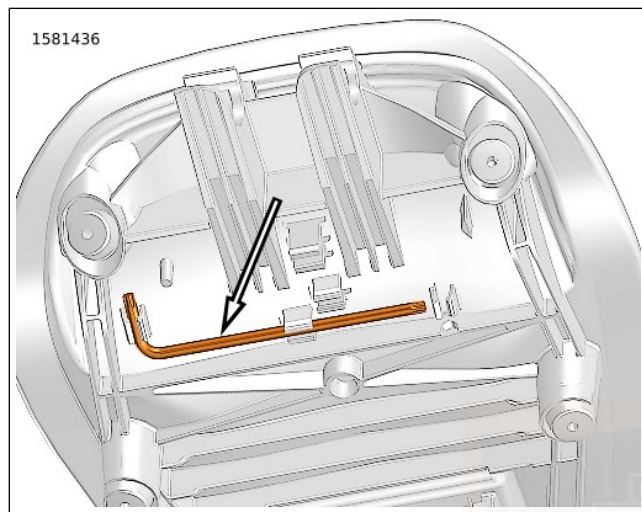
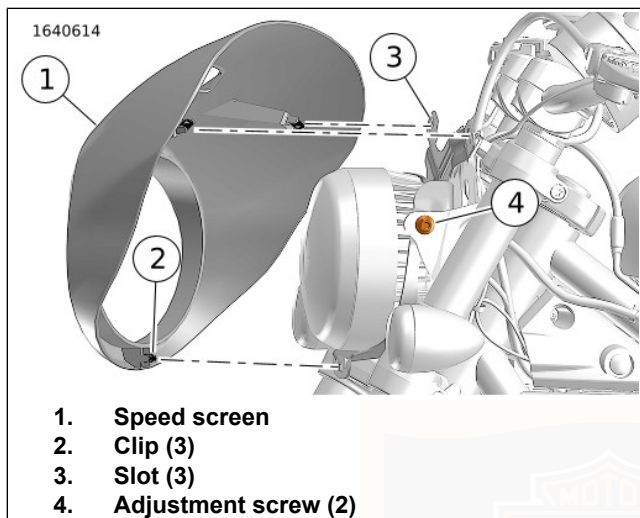

Figure 92. Headlight Adjustment Tool (If Equipped)
Figure 94. Headlight Adjustment Screw: RH975S (left side shown)
See Figure 92. Some models are equipped with headlamp adjustment tool.
1. **Nightster Special (RH975S):** See Figure 94. Remove speed screen (1).
- a. Pull speed screen forward to release clips (2).
3. See Figure 92. **If equipped:** Remove headlight adjustment tool from bottom of seat.
4. See Figure 93 or Figure 94. Loosen screws on left and right sides of headlamp.
9. **Nightster Special (RH975S):** See Figure 94. Install speed screen (1).